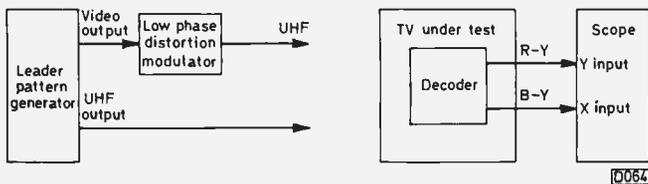
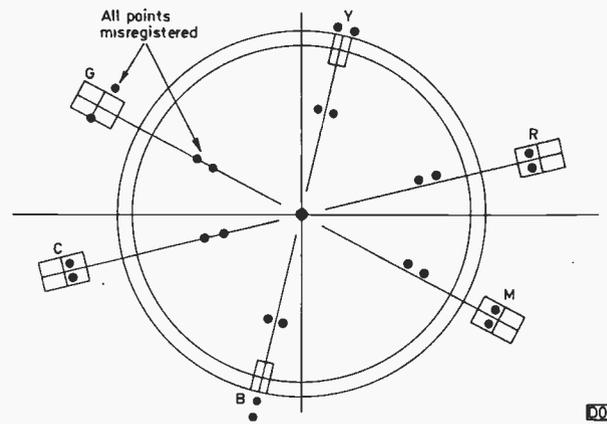

Fig. 1: Block diagram of the alignment system.
Fig. 5: Type of display obtained with a misaligned or faulty decoder.
Mount the converter feedhorn at the focus of the dish, allowing up to 5mm backward and forward movement for peaking the focus. In general the focus will occur 0.5-1cm inside the feedhorn. Take all the receiving equipment out to the dish and connect some form of signal strength indicator – due to the sharpness of the beamwidth and the fact that the adjustments are more critical than at 4GHz a signal strength meter is invaluable. Fig. 5 shows a simple circuit using a diode detector and an operational amplifier which can be used to drive a meter.
Fig. 5: Signal strength meter circuit. Diodes D type OA90 or similar. C is 0.001µF – if the readings vary a lot with the video content, increase the value of C to 0.1µF or more. The 10kΩ potentiometer adjusts the meter's sensitivity. Any type of operational amplifier will do.
– the lowest few lines can be set for luminance only, to act as a reference. The system adopted is shown in block diagram form in Fig. 1.
- (1) 6MHz sound trap. Unless the phantom twiddler has been at it this will never require setting. If it does require a tweak, disconnect the video input, connect a 6MHz input and adjust L2 for minimum signal with the scope connected to TP1.
- (2) Reference oscillator frequency. Connect the video input to the decoder, feed in the special colour-bar signal, short TP2 and TP3 together and to chassis and adjust trimmer C23 for stationary colour bars – just as you would when setting up a line timebase with flywheel sync.
- (3) Burst level. Connect the scope to TP2 and adjust the burst amplitude to 500mV with R30.
- (4) Phasing adjustments. A graticle is used with the scope giving a vector display. Connections are as shown in Fig. 1. With a correctly adjusted decoder the display shown in Fig. 4 should be seen. If there's a fault condition or misalignment the display could look something like Fig. 5. Turn the colour control to maximum and concentrate on